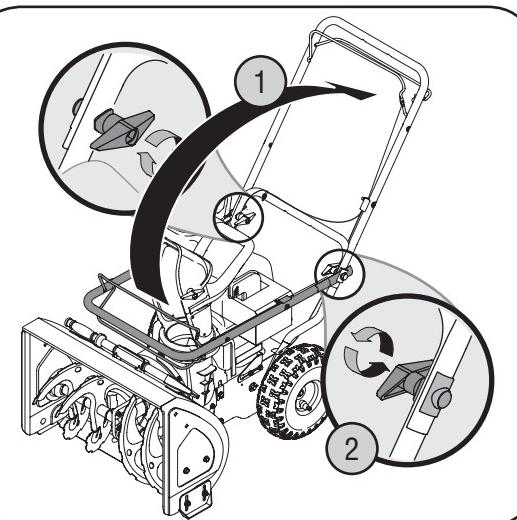

Figure 3
- Hold both controls against upper handle and pull up as shown in Step 1 of Figure 3. Make sure that the upper handle locks over the lower handle and handle tabs align with the handle. You may have to carefully maneuver the upper handle to clear chute assembly.
- Tighten the handle knobs on each side of the handle. Refer to Step 2 in Figure 3.